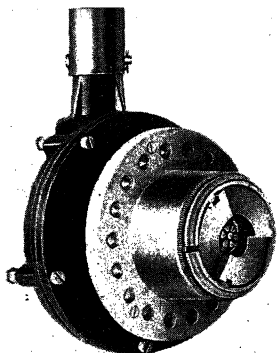

FIG. 1.—Eclipse hand engine starter.
**Starter.**—Before mounting the starter on the engine, remove the cover over the starter jaw. To install the starter, remove the engine crankcase plate and gasket covering the starter drive and mounting flange. See if the engine jaw and starter jaw are of the same type and are of the correct rotation for proper engagement. With the engine gasket removed, the distance from the mounting flange to the outermost part of the engine jaw must be  $1\frac{1}{16}$  in.  $\pm$   $\frac{1}{16}$  in. The clearance between the engine jaw and starter jaw must be  $\frac{1}{32}$  in. min. when the latter is fully retracted. Wipe the engine mounting flange clean and replace the gasket. The starter mounting flange has 24 holes that permit locating the starter at 15-deg. increments to facilitate clearance of structural members. It is shown in Fig. 1.